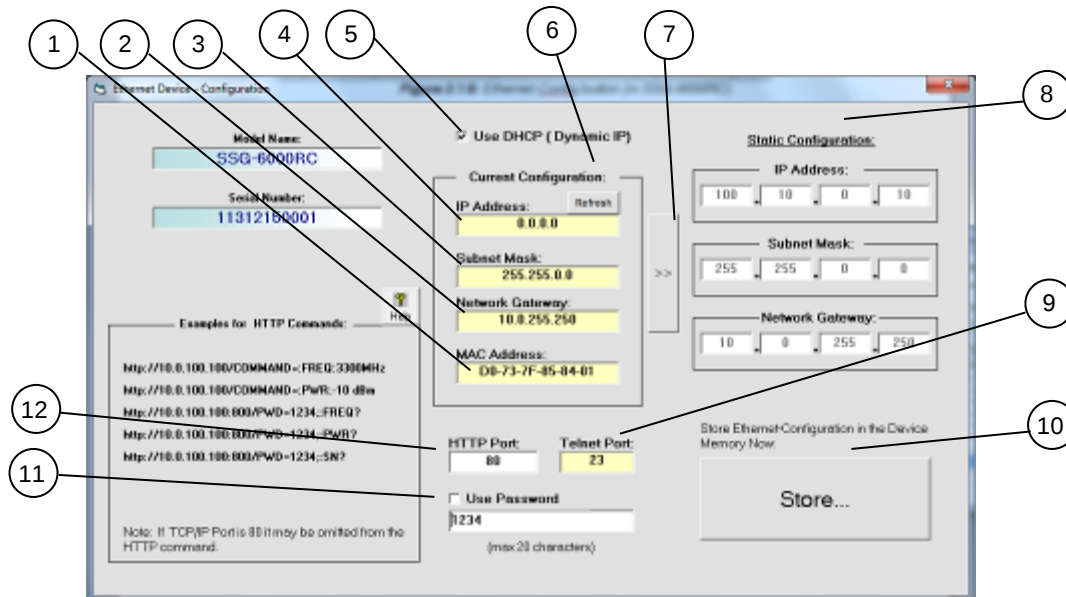

Figure 3.1.6: Ethernet Config. screen (showing factory default state)
3.1.6 The Ethernet Configuration screen will open showing the current configuration. **Fig 3.1.6** is showing the factory default of the generators. If these settings fit your local network, you do not need to access the setup before connecting the generator to the network.